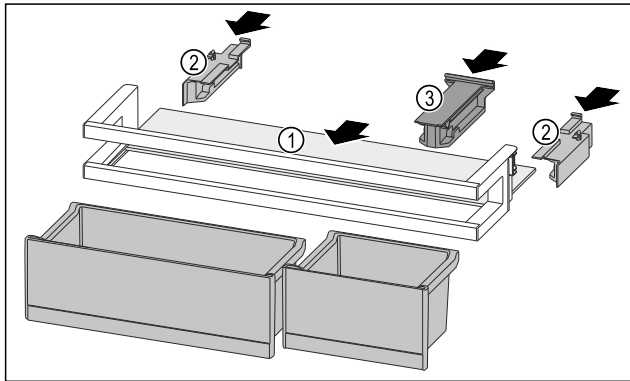

Fig. 239
- ▶ Push the shelf Fig. 239 (1) into the side recesses.
- ▶ Insert the side parts Fig. 239 (2).
- ▶ Insert the holding part Fig. 239 (3).